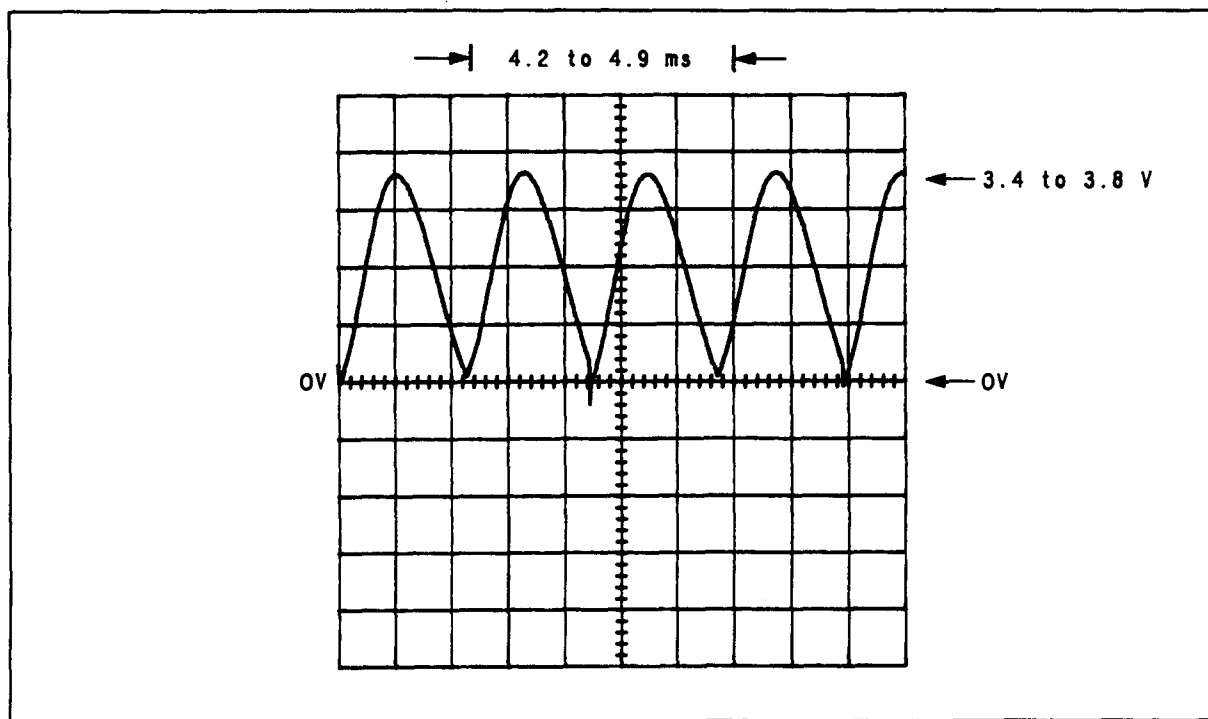

Figure 8F-7. Waveform for $\sqrt{1}$ Step 2
2. Connect a high-impedance, dc coupled oscilloscope to A53TP2 (Φ DET). (See Service Sheet 1.) The waveform should appear as in Figure 8F-7.